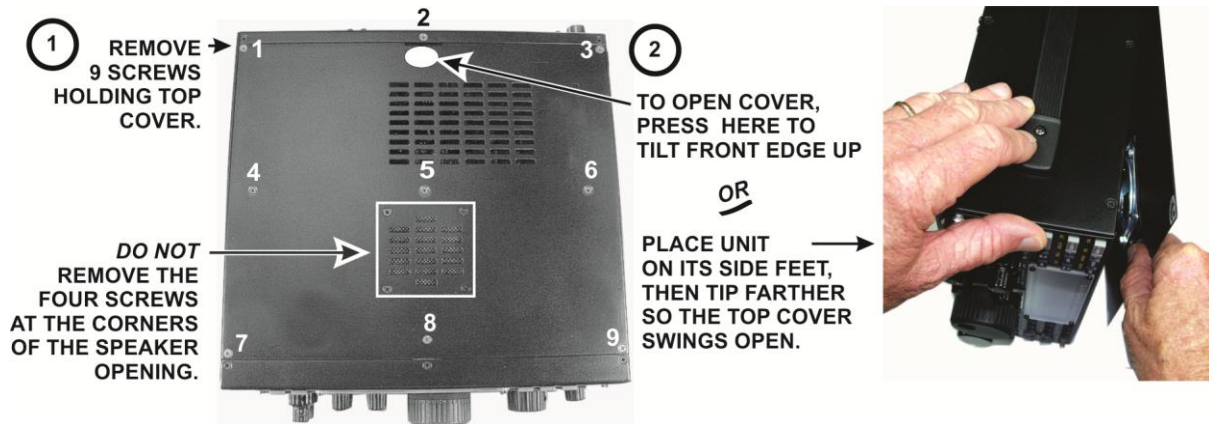

Figure 1. Removing the Top Cover.
- Remove the nine screws to free the top cover as shown in Figure 1 After removing the screws, lift the cover gently to reach the speaker wire connector. Unplug the speaker then set the top cover aside in a safe place.